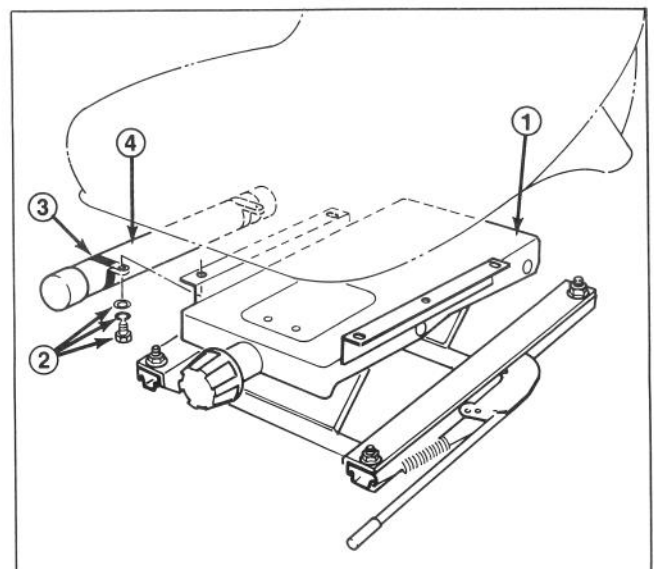

Figure 6
1. Mount seat mounting plate over four threaded studs at the bottom of seat suspension assembly and secure in place with lockwashers and nuts (Fig. 6).
2. Assemble seat suspension assembly to four capscrews on seat bottom and install a lockwasher and flatwasher at all four locations. Install an R-clamp over right front and right rear capscrews of seat and install and tighten nuts to secure all four locations (Fig. 6). Install manual tube into R-clamps, insert manual into tube and place cap over tube end (Fig. 6).
3. Mount seat support over four threaded studs at the bottom of seat suspension assembly and secure in place with lockwashers and nuts (Fig. 6).